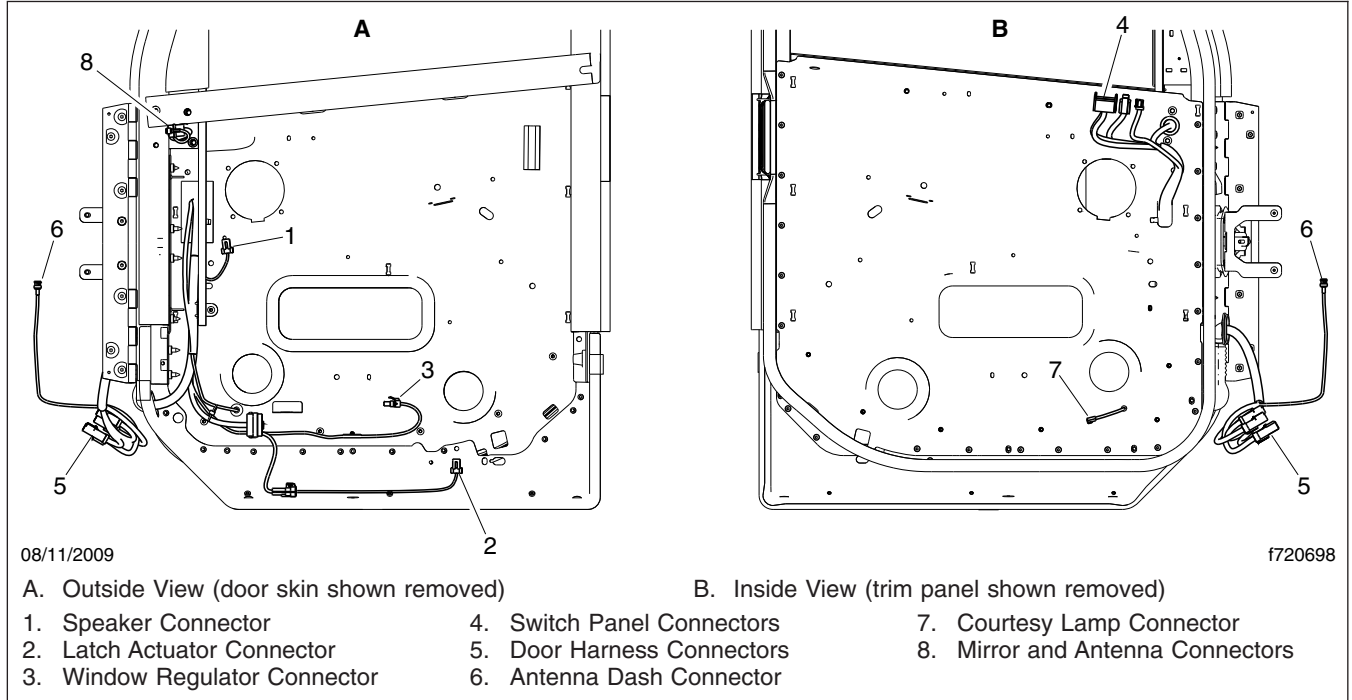

Fig. 4, Door Wiring Harness, LH Door Shown
13. Pull the door wiring harness and connector out through the holes inside the cab and the forward door frame, then push the wiring and connectors into the door through the hole on the forward edge of the door. It may be necessary to remove or loosen vapor barriers. See Fig. 4.